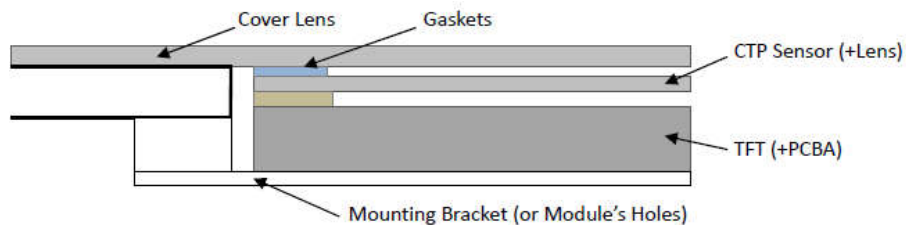

Figure 3
Additional Cover Lens Mounting (Figure 3)
- 覆加盖板（附图 3）